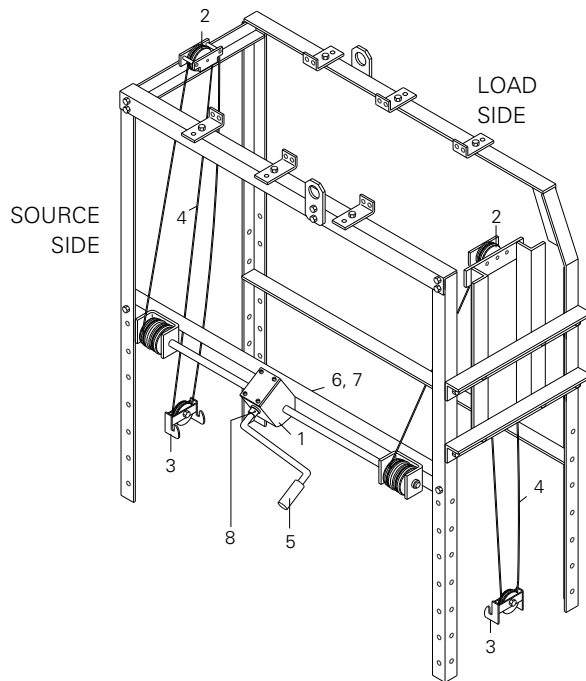

Figure 7. Installing Tank-Lifting Windlass KA89WV2 to tophalf substation frame.
- Do not raise the recloser beyond height dimension B, specified in Table 1. Be sure the crimped end of the cable is not bent around the sheave assembly (Item 2, Figure 7).
Refer to Figures 7 through 10 and Table 4. The tank-lifting windlass is used to lower and raise a 15 kV or 27 kV recloser mounted in the substation frame. It can also be used to lower and raise the tank of a 15 kV, 27 kV, or 38 kV recloser. The tank-lifting windlass is ordered and shipped separately.
5. Position the frame sheave assemblies (Item 2) on the frame hoist-support angles. (See Figures 7 and 10).